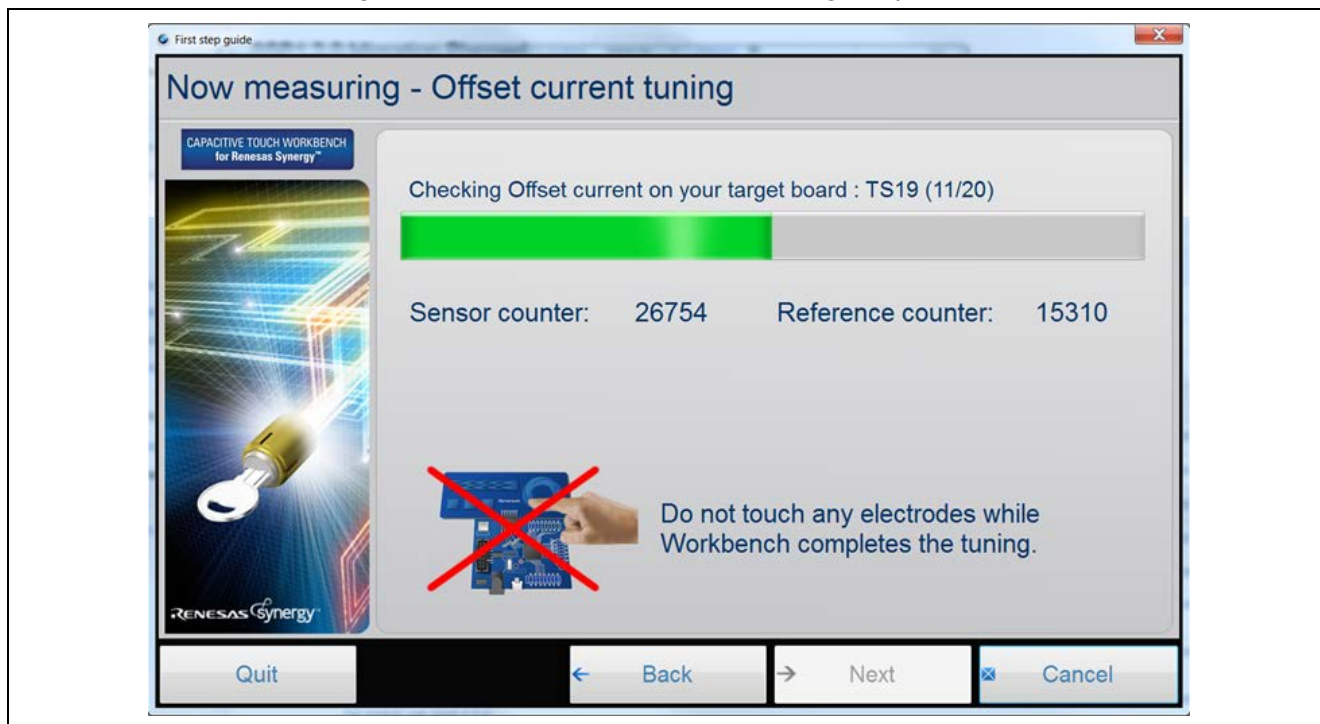

Figure 21. Offset Current Tuning
2. Click **Next** as shown in Figure 21 to start **Offset current tuning**.